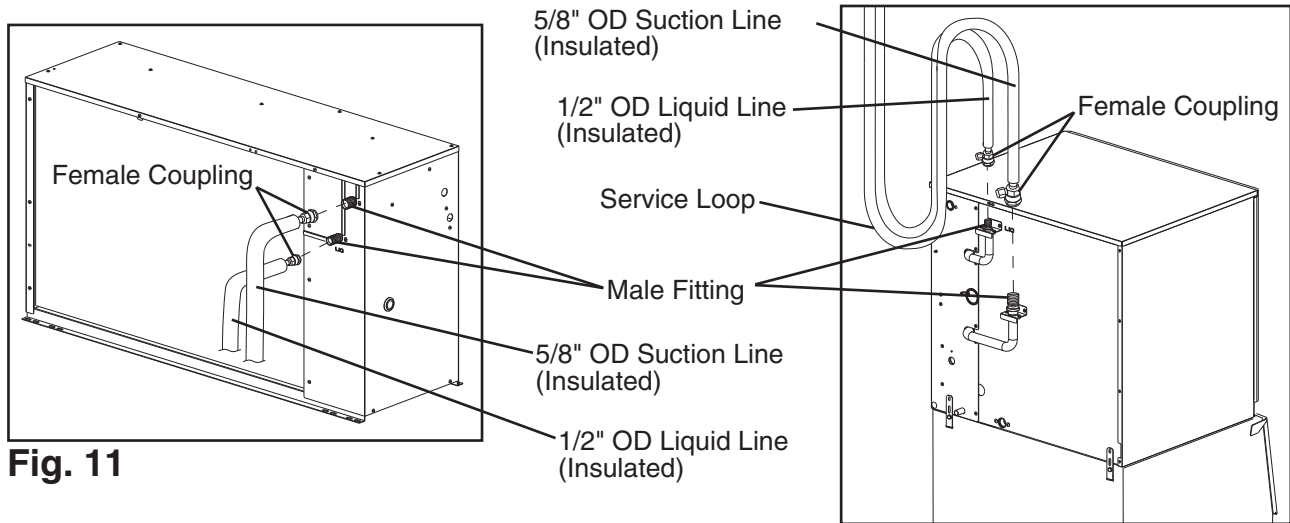

Fig. 11
- 1) Route the factory line set (5/8" OD suction line and 1/2" OD liquid line) from the remote condensing unit to the icemaker. Leave a service loop behind the icemaker to allow the icemaker to be pulled out for service. See Fig. 11. Factory fabricated line sets are precharged and do not need to be evacuated. If the line set is too long or too short, see "II.E.2.a)(1) Factory Line Set Modification."
- 1) Route a 5/8" OD copper tube suction line and a 1/2" OD copper tube liquid line between the remote condensing unit and the icemaker. Leave a service loop behind the icemaker to allow the icemaker to be pulled out for service. See Fig. 11.